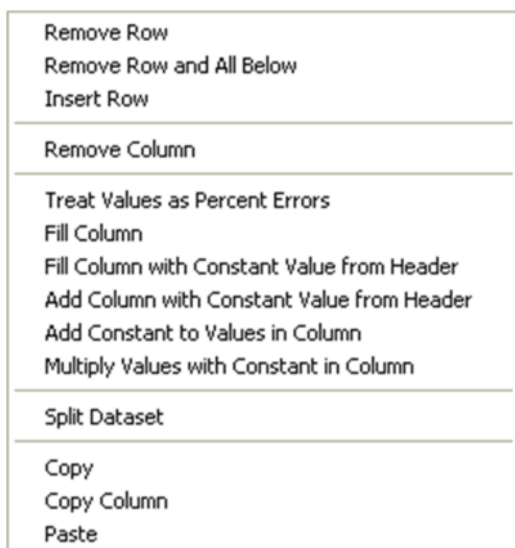

Figure 28: Data grid context menu
1. Append: All datasets found in the DHP file will be appended at the end of the databank. It is possible to select only some of the loaded data sets by setting or removing the check marks in the “Data sets” page (see Figure 28 Dataset List - Append Mode).
3. Replace (Empty Sets): The new datasets will replace previously removed datasets. It is possible to select only some of the loaded datasets by setting or removing the check marks in the “Datasets” page (see Figure 28 Dataset List - Append Mode).